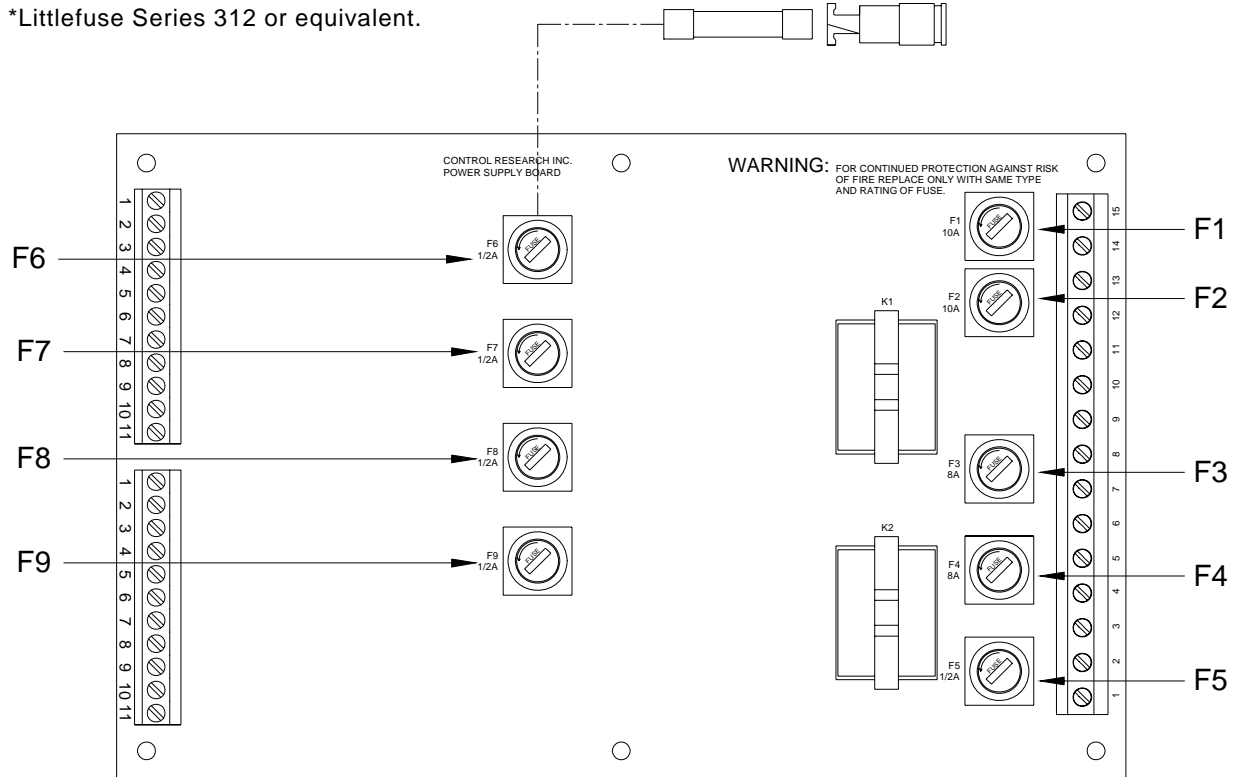

Figure 5-4-1. Fuses on Power Supply Board
There are nine (9) fuses as specified in Table 5-4-1. All fuses are located on the Power Supply Board, shown in Figure 5-4-1.